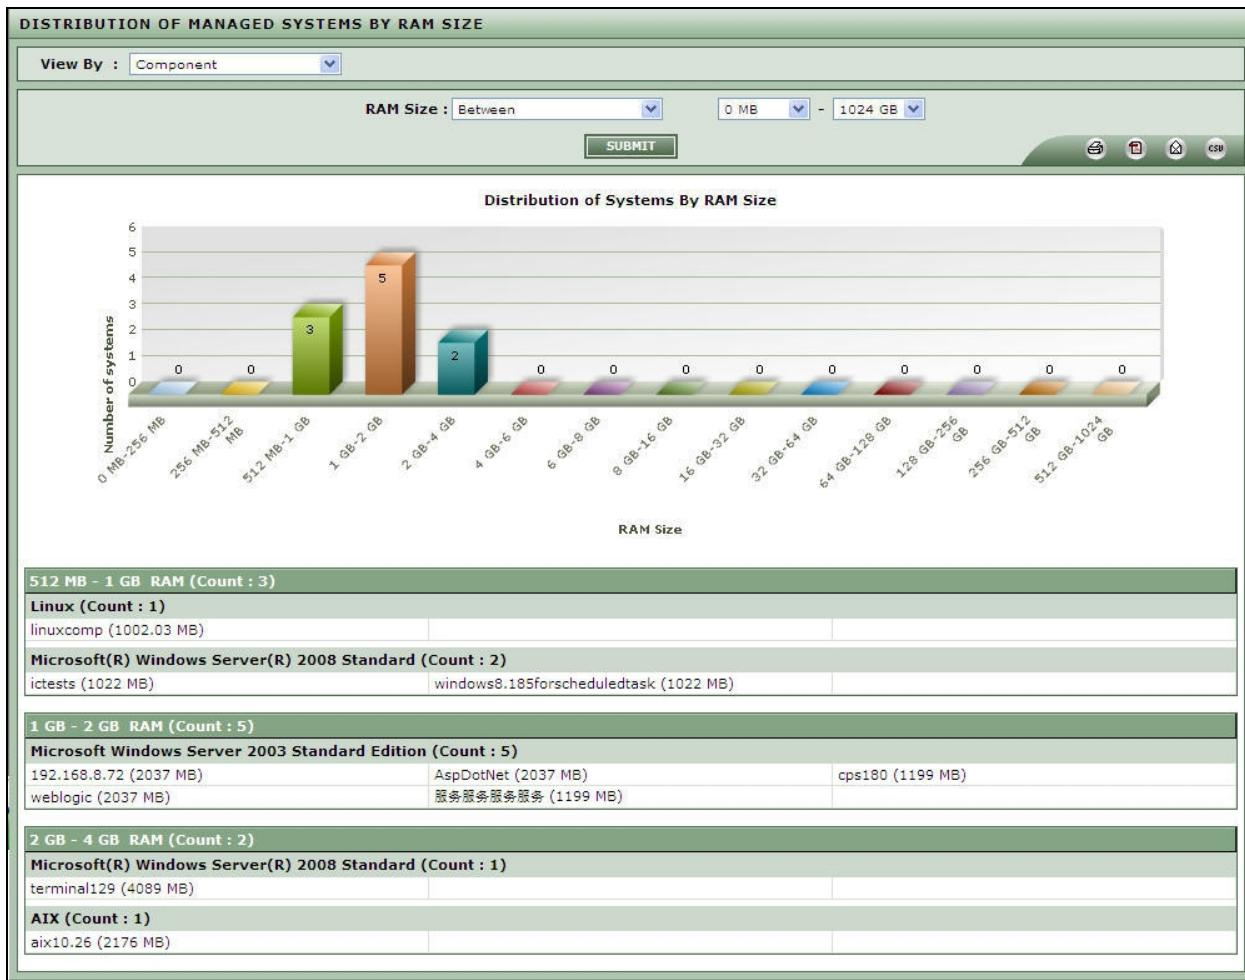

Figure 2.17: Distribution of systems by RAM size
1. By default, the **Between** option is chosen from the **RAM Size** list box as depicted in Figure 2.17. Similarly, from the adjoining list boxes, the values 0 MB and 8 GB are by default chosen - this indicates that the page will, by default, search for those systems with a RAM configuration in the
- Then, click the **SUBMIT** button (see Figure 2.17).